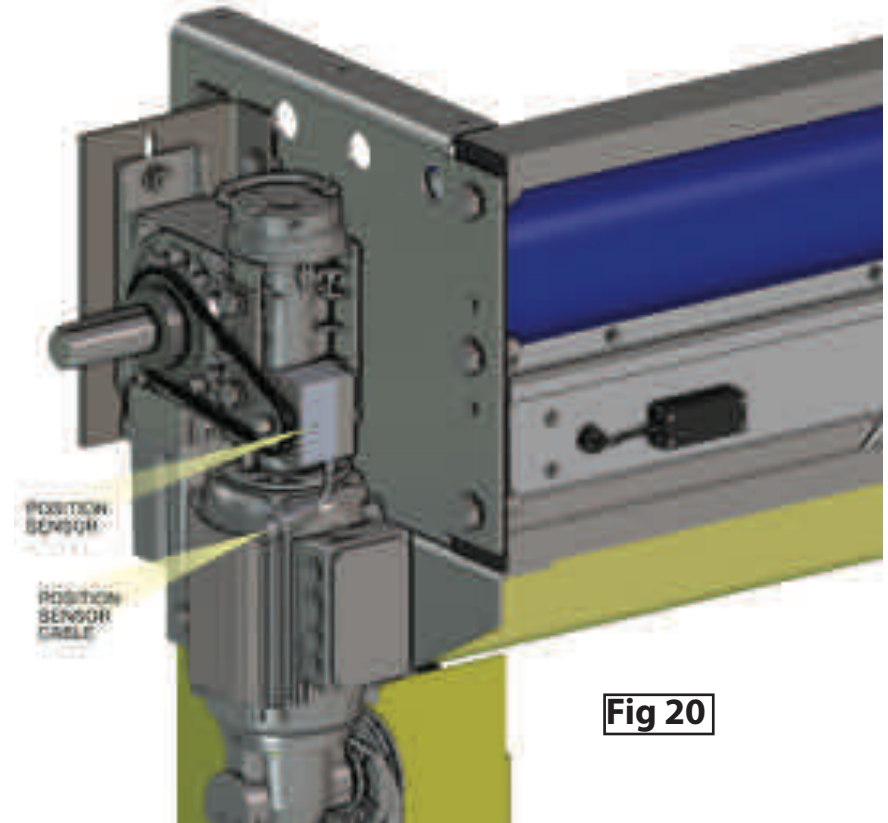

Fig 20
-5 pin cable connector (See Fig 20 and 21 on page 18)
The Position Sensor comes pre installed to the motor. See Fig 20 for location.